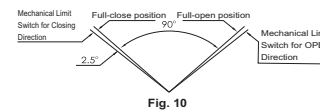
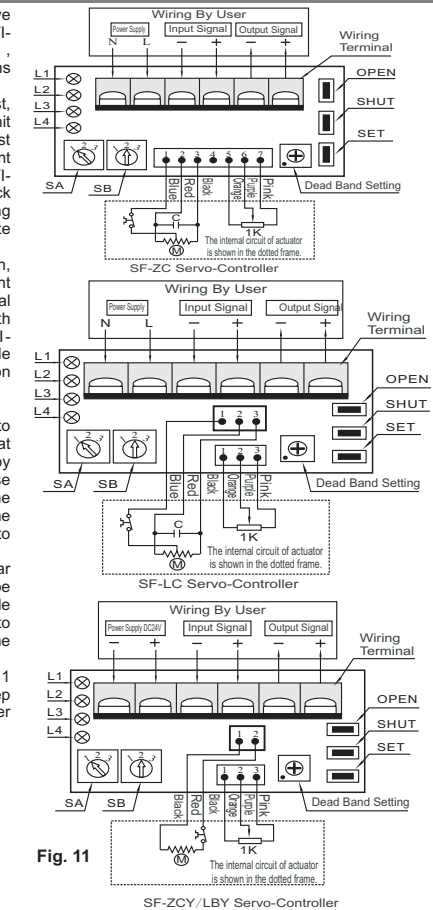

Fig. 10
Fig. 11
- ① If no special requirement, the stroke of actuator is set to 90° between Full-close position and Full-open position at the ex-factory debugging. After the valve is equipped by user, it is necessary to readjust the angle if the Full-close position and Full-open position of the valve are not same as the Full-close position and Full-open position of the Electric actuator. The mechanical limit must match up to the requirement of Fig.10 as you adjust it.
- ② User is not allowed to adjust the potentiometer and gear as the opening potentiometer of all adjusting type (Type EMT and GMT) has been considered that the possible changes of Full-open and Full-close positions will lead to the deviation of working area of potentiometer when the valve is adjusted.
- ③ Connect the wiring terminal correctly according to Fig.11 so as not to damage the servo-controller. Be sure to keep it in mind: It is not allow absolutely connecting the power lead with the terminals of input signal or output signal.
- ④ TO BE CONNECTED TO A CLASS 2 CIRCUIT ONLY and RACCORDER UNIQUEMENT à UN CIRCUIT DE CLASSE 2.